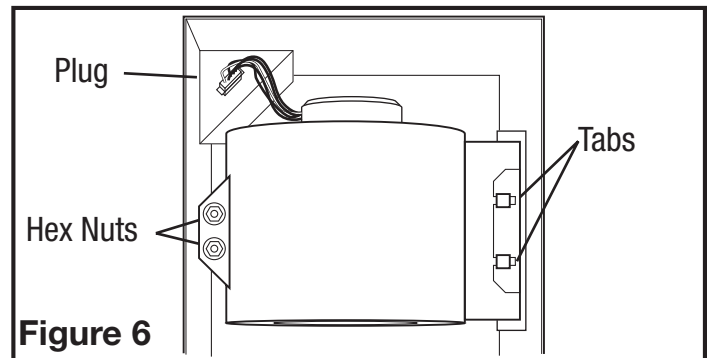

Figure 6
- 1b. Internal Wire Compartment: Using a 7/16" socket, remove the two hex nuts holding the blower assembly in place. Lift up on the assembly and slide it out of the tabs on the housing (**Figure 6**). Remove the wire compartment cover screw and place the cover in a secure place (**Figure 7**).